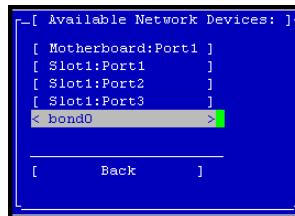

Figure 224. Selecting a Bonded Interface in the Available Network Devices Window
1. On the Configuration Interface main menu, tab to Network TCP/IP Settings and press Enter. The Available Network Devices window opens, shown in Figure 224. The logical bond is listed in the window.